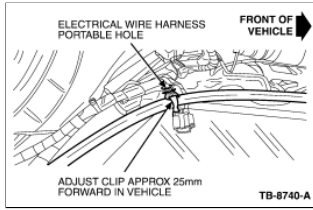

Figure 2 - Article 07-3-6
5. Move current tie-strap approximately 1" (25 mm) toward front of vehicle. This will pull the hose to a taut position, when clipped to the electrical wire-harness portable hole. (Figure 2)